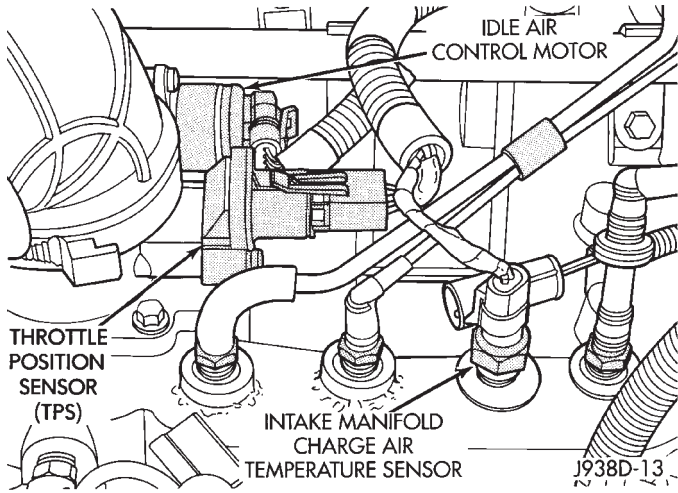

Fig. 22 Air Temperature Sensor—4.0L Engine
(1) Disconnect the wire harness connector from the sensor (Figs. 22 or 23).